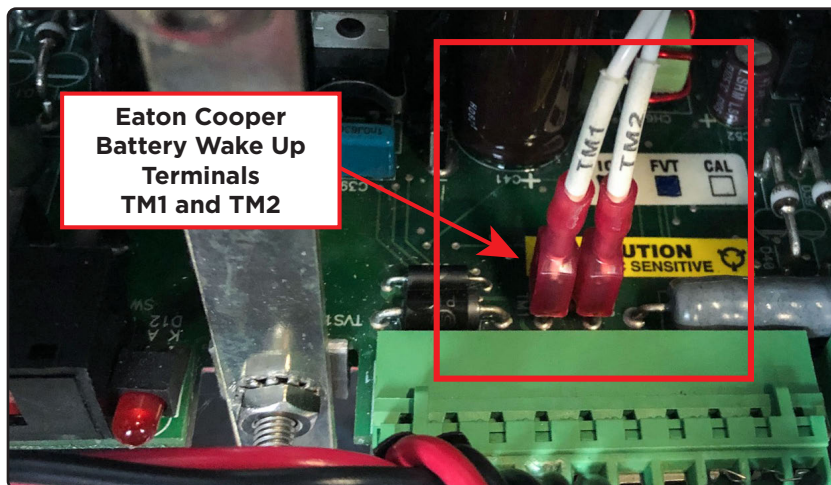

Figure 21 Eaton Cooper Battery Wake Up Terminals TM1 and TM2
2. Connect the Battery Wake Up harness (BECO #B-1870) to the Battery Wake Terminals on the board of the existing Eaton Cooper cabinet. These wires are identified as **TM1** and **TM2** and are connected to the **TM1** and **TM2** terminals on the cabinet board (Figure 21).